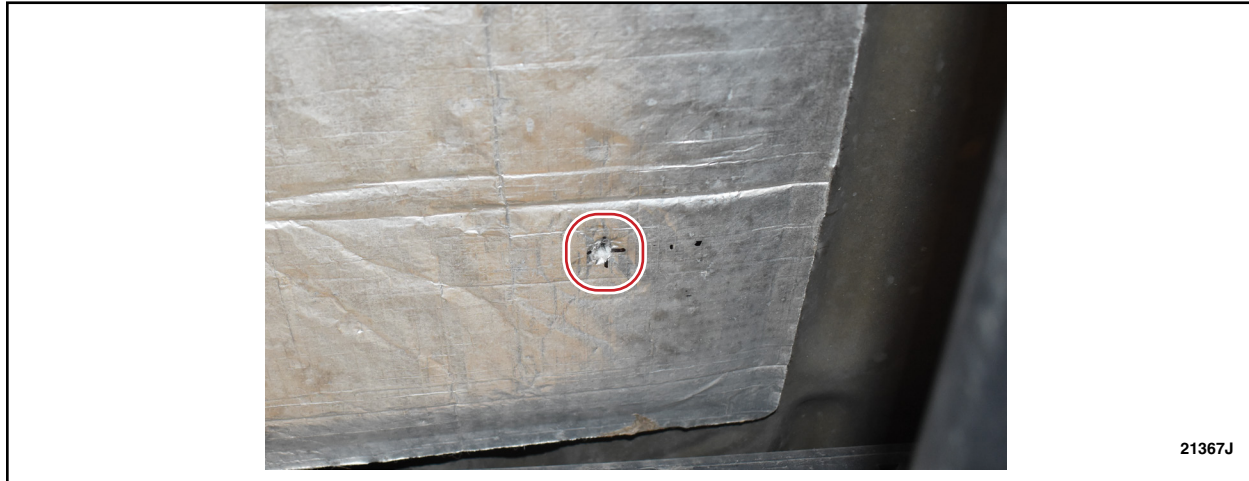

FIGURE 5
9. Using the 6.7mm (17/64 in) drill bit, drill a hole through the insulator and into the floor. See Figure 5.